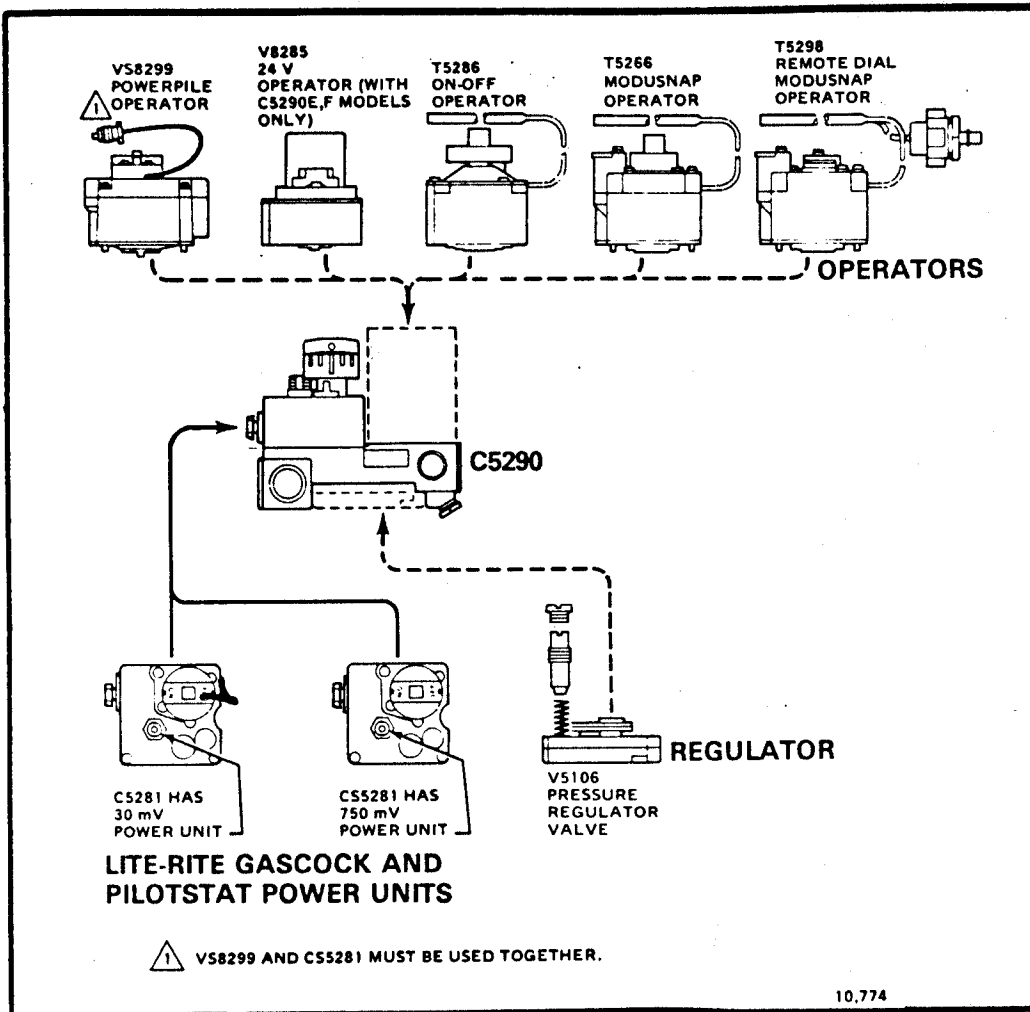

Fig. 26—Building 40.5 and 80 cfh [1.1 and 2.3 m3/hr] series controls.
40.5 and 80 cfh [1.1 and 2.3 m3/hr] capacity combination gas controls for heating appliances use the Adatrol concept. All models are built using the manual C5290 and various operators, Lite-Rite gas cock Pilotstat safety control and the V5106 pressure regulator (Fig. 26). Model numbers with suffix letters "E" and "F" have a maximum capacity of 80 cfh [2.3 m3/hr]. Those with suffix letter "E" are factory equipped with the V5106 Pressure Regulator. Model numbers with suffix letter "F" do not have a pressure regulator and are generally used on LP gas, although a pressure regulator may be added. Model numbers with suffix "R" have a maximum capacity of 40.5 cfh [1.1 m3/hr].